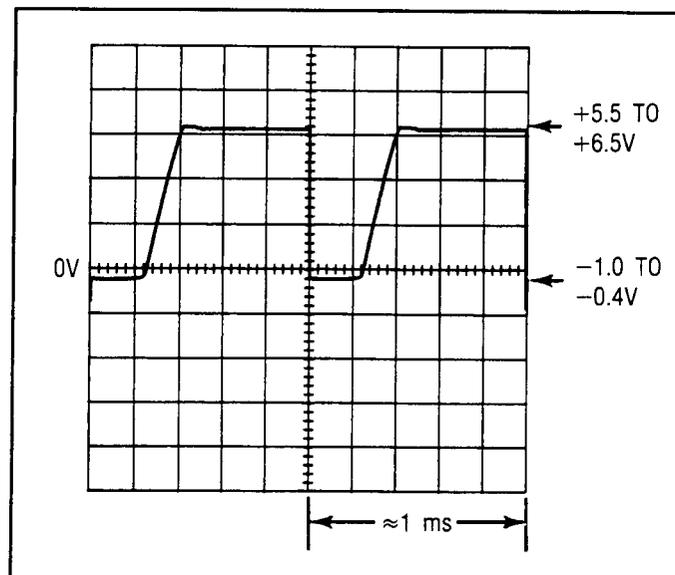

Figure 8C-6. Waveform at A5TP3, $\langle \sqrt{1} \rangle$ Step 5
6. Connect the oscilloscope to pin 13 of U8C. The waveform should be as shown in Figure 8C-7.